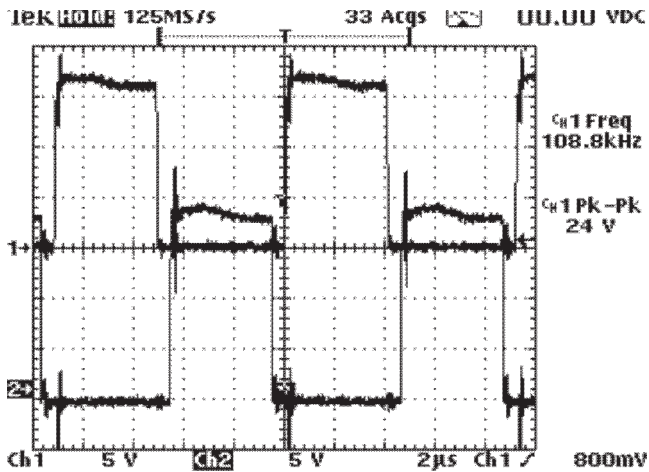

Figure 3.9: Switching signal with dead time at nodes N397 and 398 (pins 11 and 14 of U19).
- Nodes N397 and N398 (pins 11 and 14 of U19): 105–115 kHz (see Figure 3.9). If not, U19 or U18 is defective.